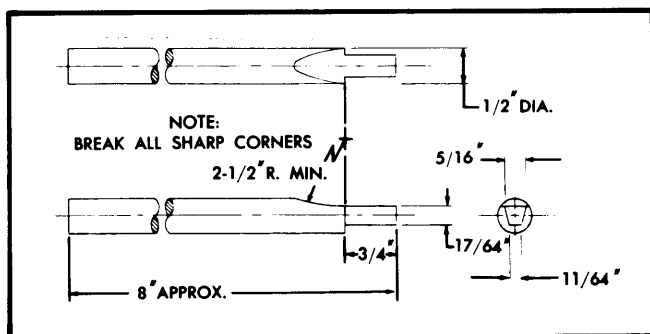

Fig. 4 Oil Seal Installation Tool
1) Remove oil pan and oil pump. Remove rear main bearing cap and use suitable tool (see Fig. 4) made from brass bar stock to pack upper seal. Insert tool against one end of oil seal in block and drive seal gently into groove until tool bottoms. Remove tool and repeat at other end of seal in cylinder block. Clean block and bearing cap parting line thoroughly.